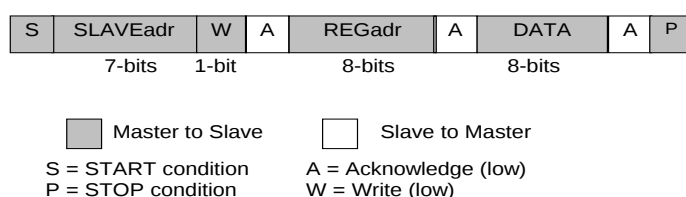
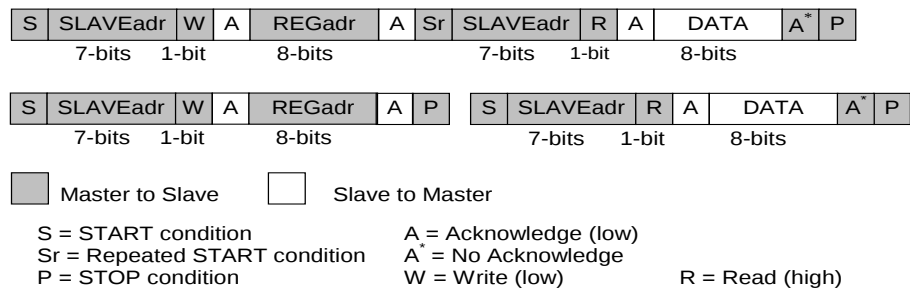

Figure 10: I²C Byte Write (SDA Line)
Figure 11: I²C Byte Read (SDA Line) Examples
The I²C bus is monitored for a valid slave address whenever the interface is enabled. It responds immediately when it receives its own slave address. The acknowledge is done by pulling the SDA line low during the following clock cycle (white blocks marked with A in Figure 10 and Figure 11).
The protocol for a register write from master to slave consists of a START condition, a slave address with read/write bit, and the eight-bit register address followed by eight bits of data, terminated by a STOP condition. DA9141 responds to all bytes with acknowledge (A), see Figure 10.
When the host reads data from a register it first has to write to DA9141 with the target register address and then read from DA9141 with a repeated START, or alternatively a second START, condition. After receiving the data, the host sends no acknowledge (A*) and terminates the transmission with a STOP condition, see Figure 11.